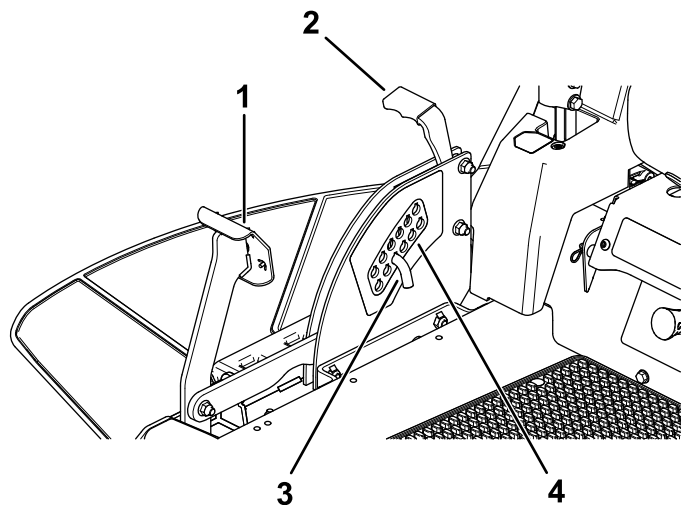

Figure 26
1. Push on the deck-lift pedal with your foot and raise the mower deck to the transport-lock position (also the 114 mm (4-1/2 inch) cutting height position) as shown in Figure 26.
2. To adjust, remove the pin from the height-of-cut bracket (Figure 26).
3. Select a hole in the height-of-cut system corresponding to the desired height of cut and insert the pin (Figure 26).